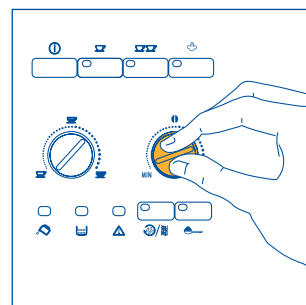
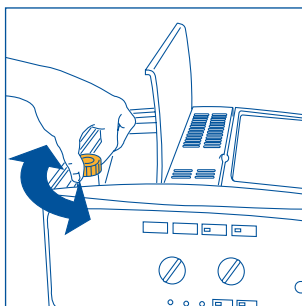

Fig.7
Fig. 17
- 2) Adjust the right-hand knob (Fig. 7) to set the desired taste of the coffee. Turning the knob clockwise increases the quantity of coffee beans that the machine will grind, and thus makes the taste of the coffee stronger. When using the machine for the first time, the correct position of the knob can be found by trial and error. Make sure not to turn it too far clockwise, otherwise the coffee will be delivered too slowly (in drops), above all when preparing two cups of coffee.
NOTE 1: If the coffee is delivered a drop at a time or not at all, turn the grinding coarseness regulator (fig. 17) one click clockwise (see para. 6). Turn a click at a time until the coffee is delivered satisfactorily.
NOTE 2: If the coffee is delivered too fast and is not creamy enough, turn the right-hand knob (fig. 7) clockwise. Proceed by trial and error to find the correct position of the knob. Make sure not to turn the knob too far clockwise, otherwise the delivery may become too slow (in drops), above all when making two cups of coffee. If, after several coffees, the cream is still not satisfactory, also turn the grinding adjustment knob (Fig. 17) one click clockwise (see par. 6).
To resolve this problem, re-set the grinding coarseness on the coffee grinder by adjusting the knob (Fig. 17) one click anticlockwise (as described in chap. 6).